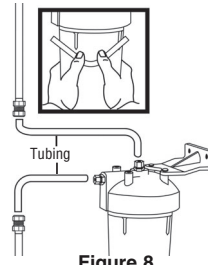

Figure 8
- Cut two lengths of 3/8" soft copper tubing and bend to shape as shown. Bend tubing to form gentle curves rather than sharp bends. (Figure 8)